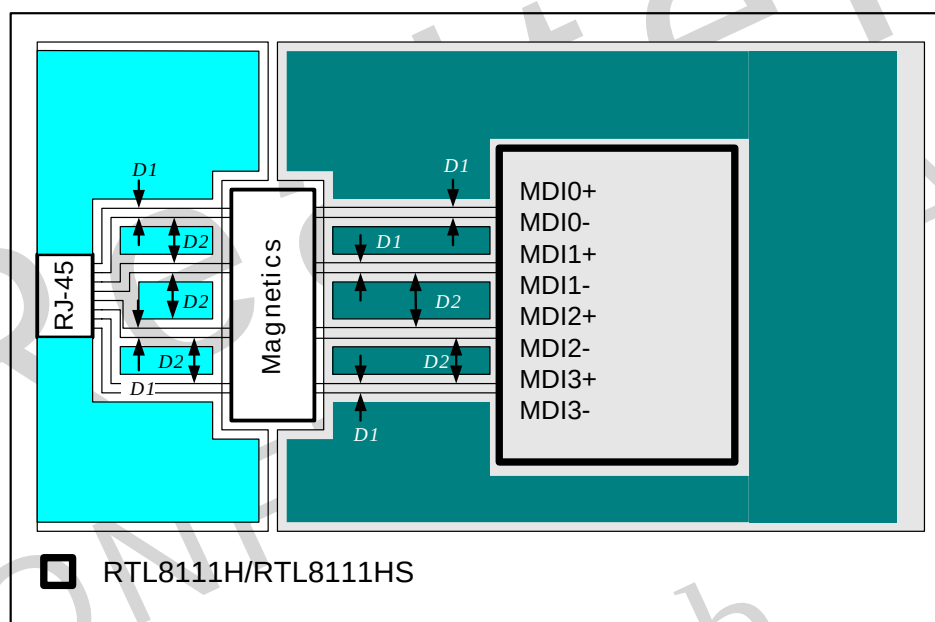

Figure 6. Signal & Trace Routing
- Traces routed from the RTL8111H/RTL8111HS to the 10/100/1000M magnetics, and to the RJ-45 connector, should be as short as possible. The 12cm maximum length between the RTL8111H/RTL8111HS and magnetics is achievable only when there is no interference. It is also very important to keep all four differential pair signal traces (MDI0+/-, MDI1+/-, MDI2+/-, MDI3+/-) equal in length. The two traces of each pair should be placed close to each other (D1) since they are differential pair signals to each other and provide a strong canceling effect on noise. The width of D1 should be calculated to have 100Ω impedance (Figure 6)
- We suggest that there should be more than 30 mil spacing between different differential pairs to minimize crosstalk coupled from other pairs (D2 in Figure 6). In addition, Ground Plane shielding can be used to separate all four signal pairs. However, a good layout should avoid the following situations: